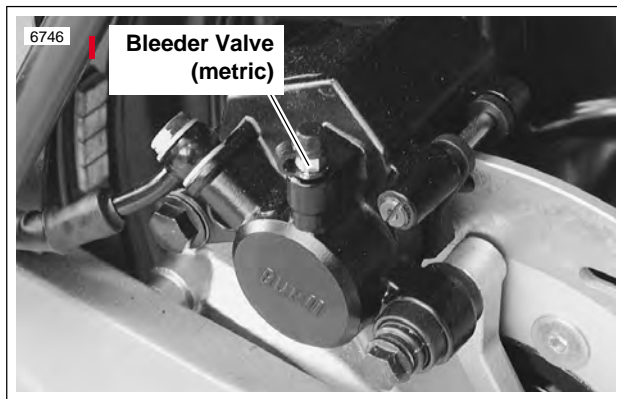

Figure 1-10. Rear Brake Caliper Bleeder Valve
- b. Rear brake caliper bleeder valve-Figure 1-10.